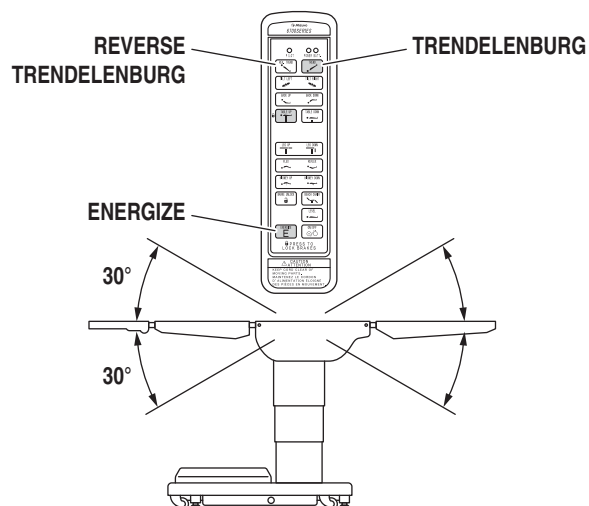

Figure 2-7. Trendelenburg Positioning
- b. Trendelenburg** To place the table in a Trendelenburg (head down) position, press the ENERGIZE button and then the TREND button (figure 2-7). To place the table in a reverse Trendelenburg (head up) position, press the ENERGIZE button and then the REV TREND button. Trendelenburg positioning of up to 30° may be obtained if lateral tilt positioning is less than 20°.